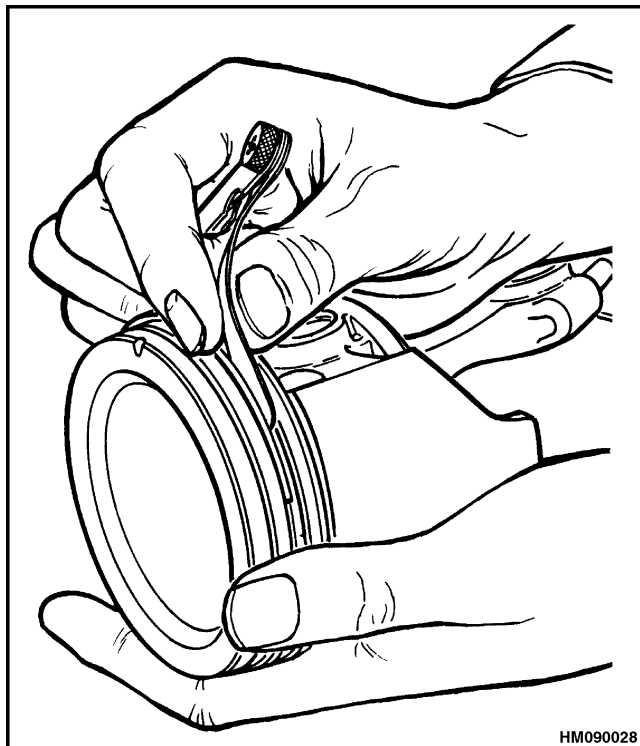

Figure 47. Piston Ring and Groove Clearance Check
1. Measure the clearance between the piston ring and the groove in the piston as shown in Figure 47. The clearances are shown in the Engine Specifications section. Replace the piston if the clearances are greater than the specifications.